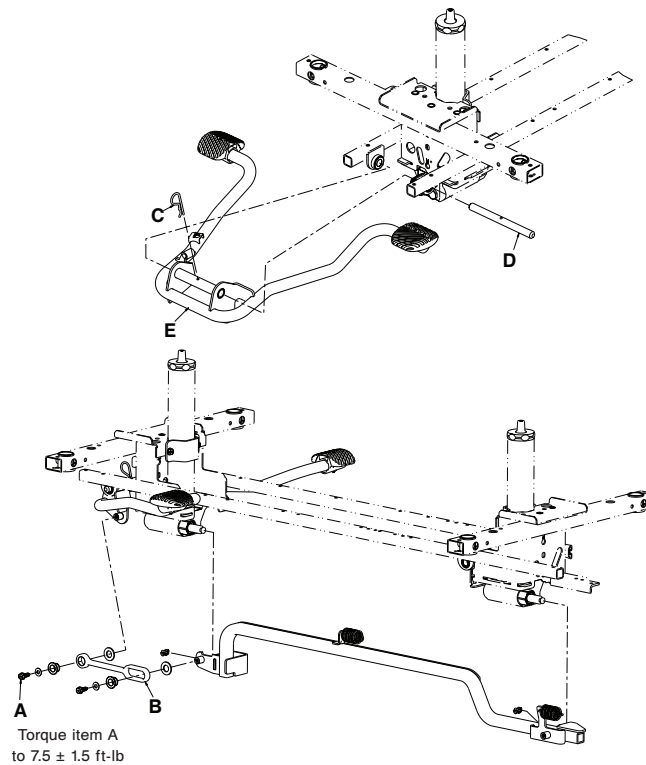

Figure 15 – Replace side the pump pedal
4. Using a 1/2" socket with a 3/8" drive extension and a 3/8" drive ratchet, remove the hex washer head screw (A) that secures the pump pedal link (B) to the pump pedal (Figure 15).